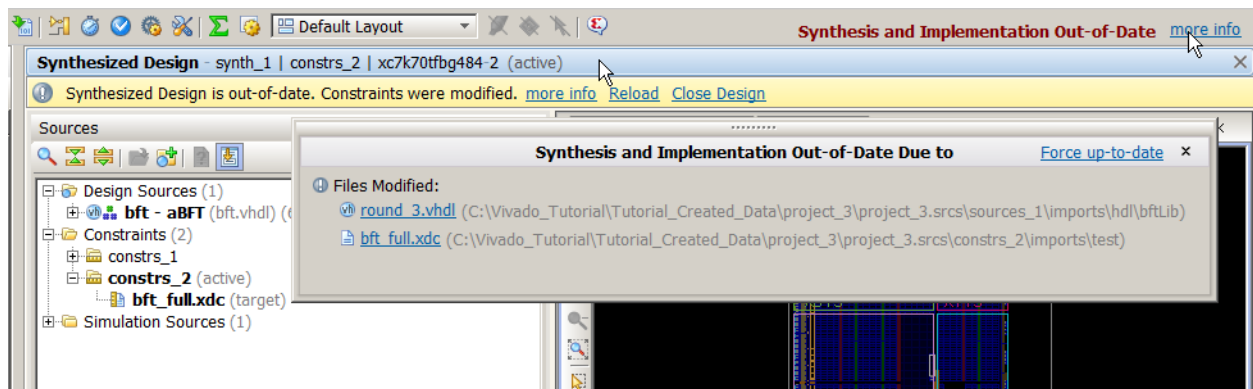

Figure 3-23: Design Out-of-Date and Reload Banner
As source files, netlists, or implementation results are updated, an out-of-date message is displayed at the right side of the Design View banner of an open Synthesized Design or Implemented Design to indicate that the run is out of date, as shown in Figure 3-23. Click the associated link to view which aspects of the design are out of date.
- **Force up-to-date:** Select the Force up-to-date link in the “Out-of-Date Due to” window that opens when you click more info as shown in Figure 3-23.